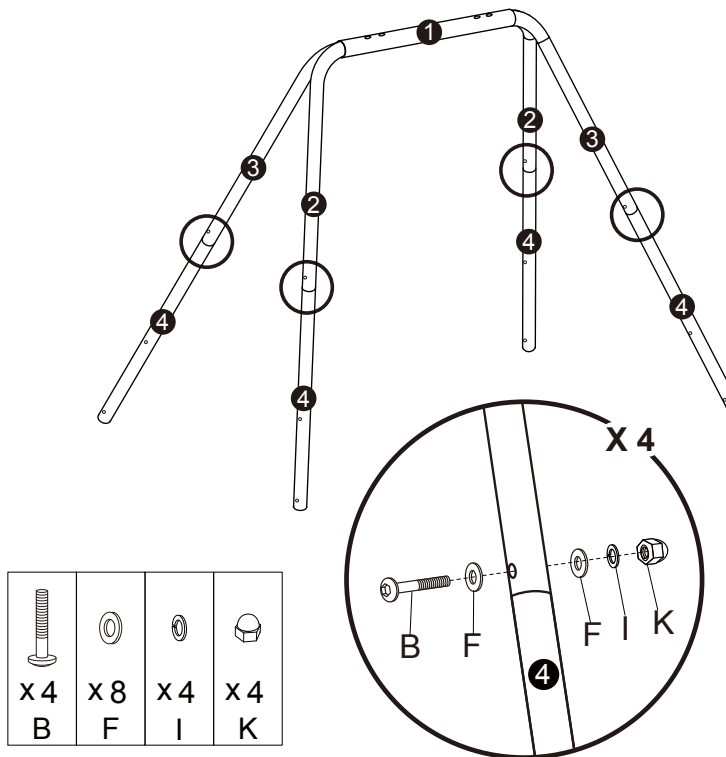

FIGURE 2
- Insert Legs (4) into (2) and (3).
- Secure with B,F,I and K in the sequence shown in FIGURE 2.